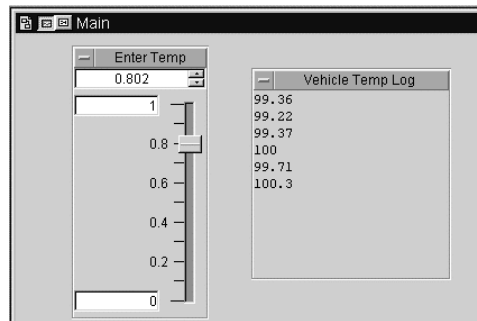

Figure 2.11. Panel view for Lab 2.4
- 31. Click Add to Panel; Enter Temp and Vehicle Temp Log will be added to the Panel View. See Figure 2.11.